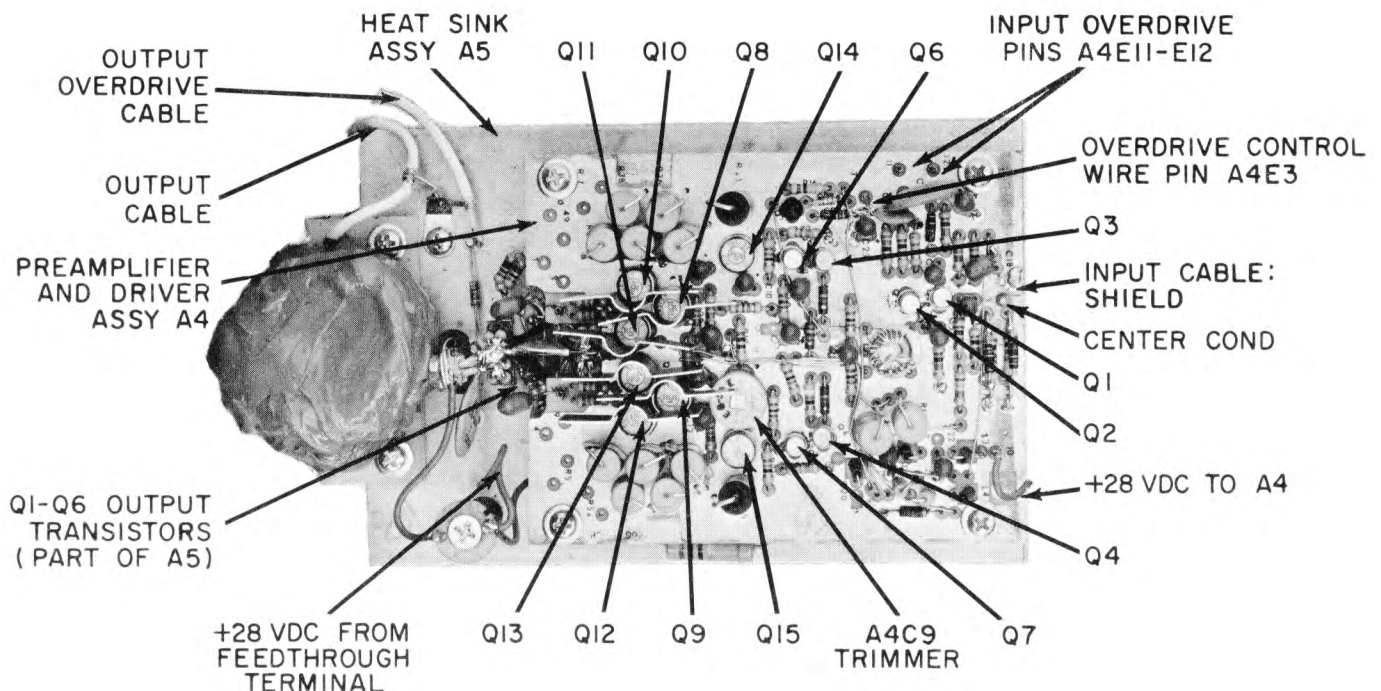

Figure 1. Amplifier Assembly Component Locations
Figure 1 shows an Amplifier Assembly for units below serial number 293. Comparison with figures 5-6 and 5-7 in the Instruction Manual will show that the transistors and most of the circuitry are
- c. Unsolder the input coaxial cable from the A4 Assembly (figure 1).
- d. Set the unit bottom side up. Unplug the overdrive control wire at A4E3 and the input overdrive cable at A4E11-E12 (figure 1).
- e. Unscrew the assembly retaining screw and then the bracket retaining screw, and remove the mounting bracket similar to the one shown in figure 1.